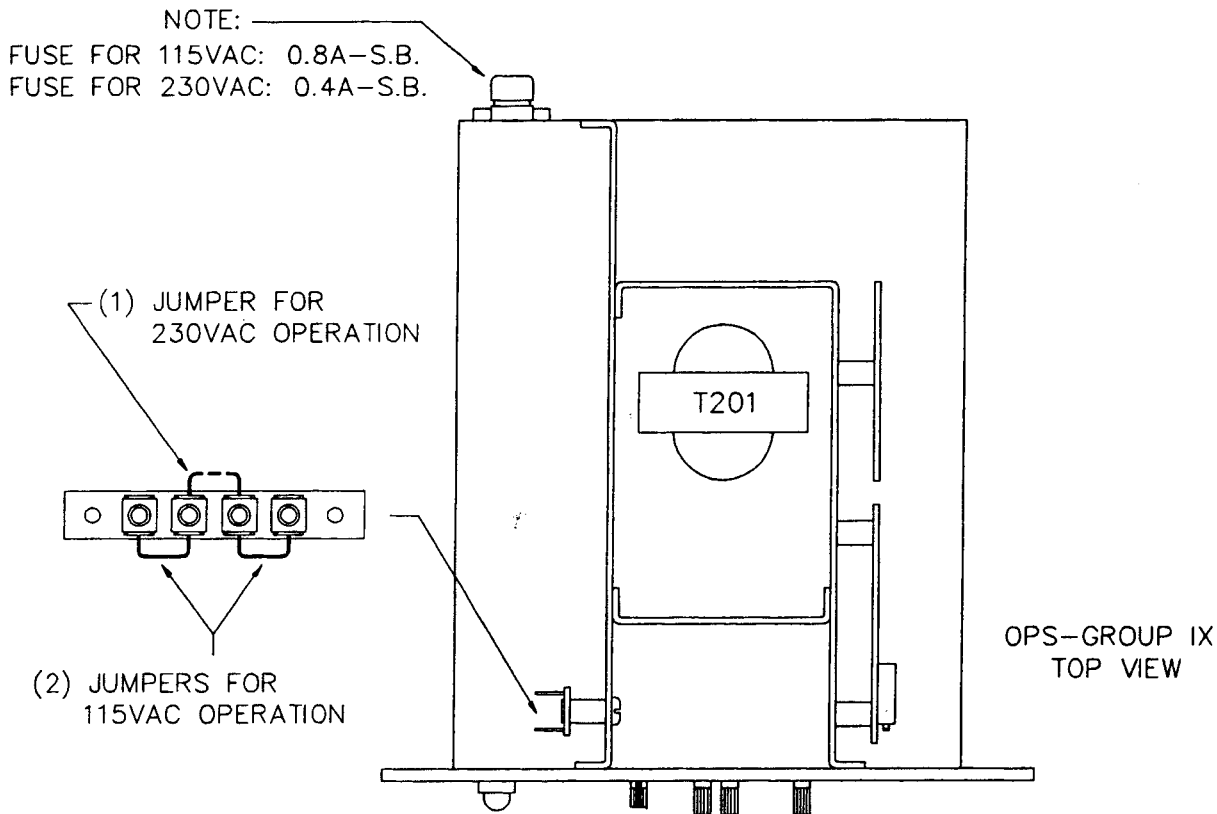

FIG. 2-3 TRANSFORMER CONNECTIONS FOR 115V A-C AND 230V A-C OPERATION.
- 2-5 The Kepco OPS Power Supply is normally delivered for operation on a single phase, 105 to 125V a-c source, 50 to 65Hz. For operation on 210 to 250V sources the jumper connections on the main transformer (T201), as well as the power fuse value, must be changed as shown in FIG. 2-3.